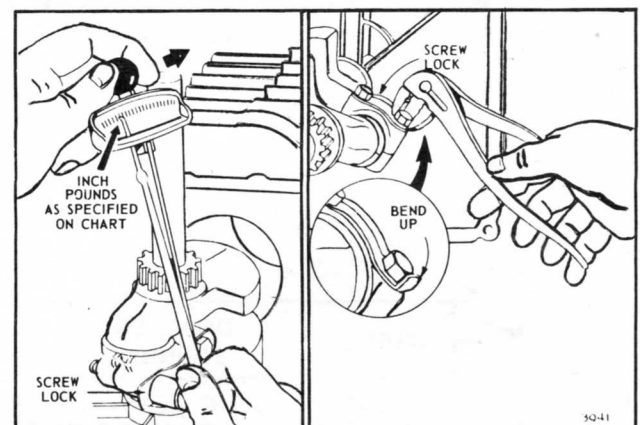

FIGURE 7-10
12. If no interference occurs, bend the screw locks against the screw heads. See figure 7-10.